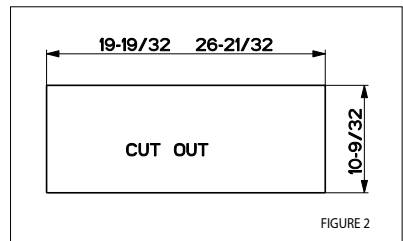

FIGURE 2
5. Make the cut-out opening where the rangehood will be installed (FIGURE 2).